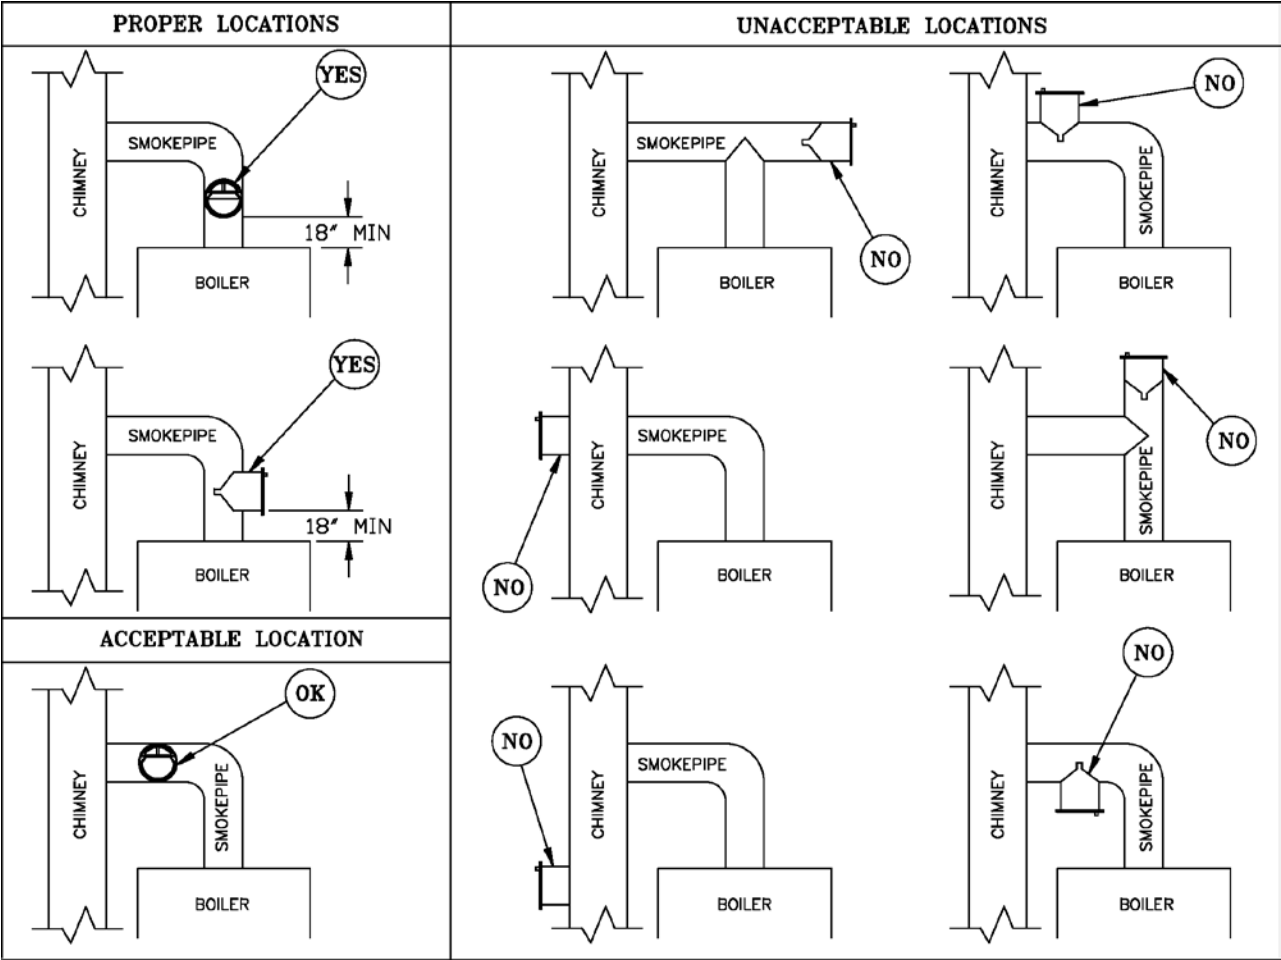

Figure 10: Draft Regulator Locations
- a. Install a draft regulator (supplied by installer) following the instructions furnished with the regulator. See Figure 10 for alternate regulator locations.